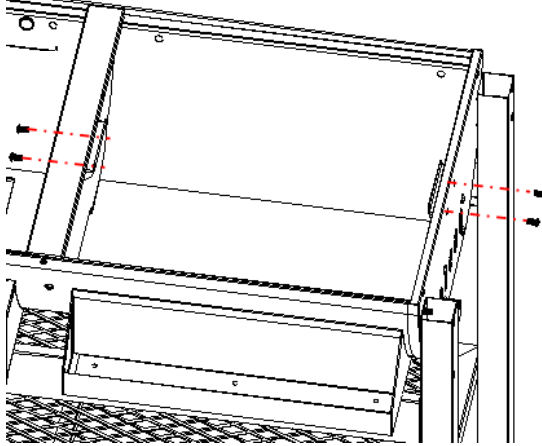

Fig. 14
*Locate:* (2) Charcoal Tray Supporting Brackets, (4) M6x12 bolts
*Procedure:* Attach the (2) Charcoal Tray Supporting Brackets to the charcoal cabinet using (4) M6x12 bolts as shown as Fig. 14.